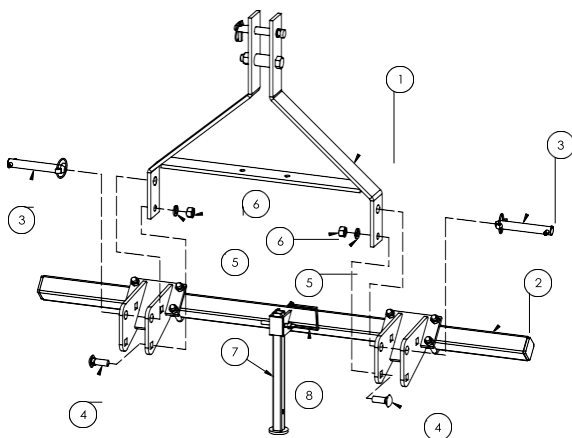

Figure 5. CPC-48, CPC-72
1. Remove the A-Frame Figure 5 (Ref. 1), frame with roller assembly attached (Ref. 2, roller assembly not shown) and parking stands (Ref. 7) from packaging.